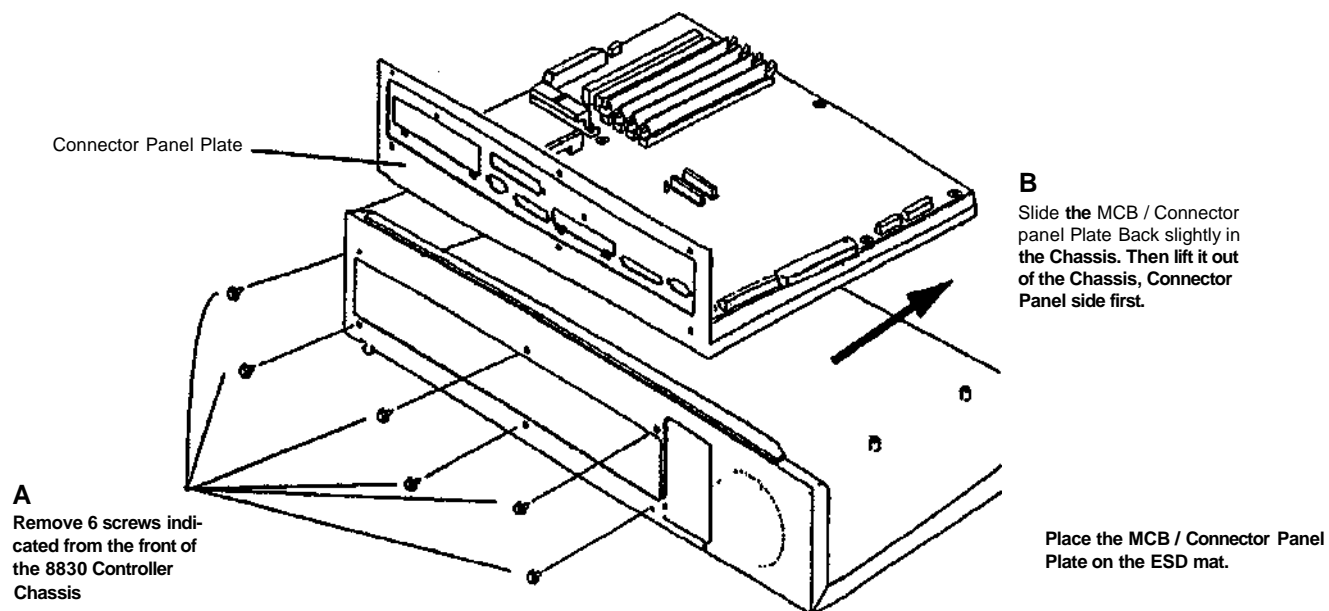

Figure 6 Removing the MCB and the Connector panel Plate from the 8830 Controller Chassis
11. (Figure 6): Remove the MCB / Connector Panel Plate from the 8830 **Controller** Chassis.